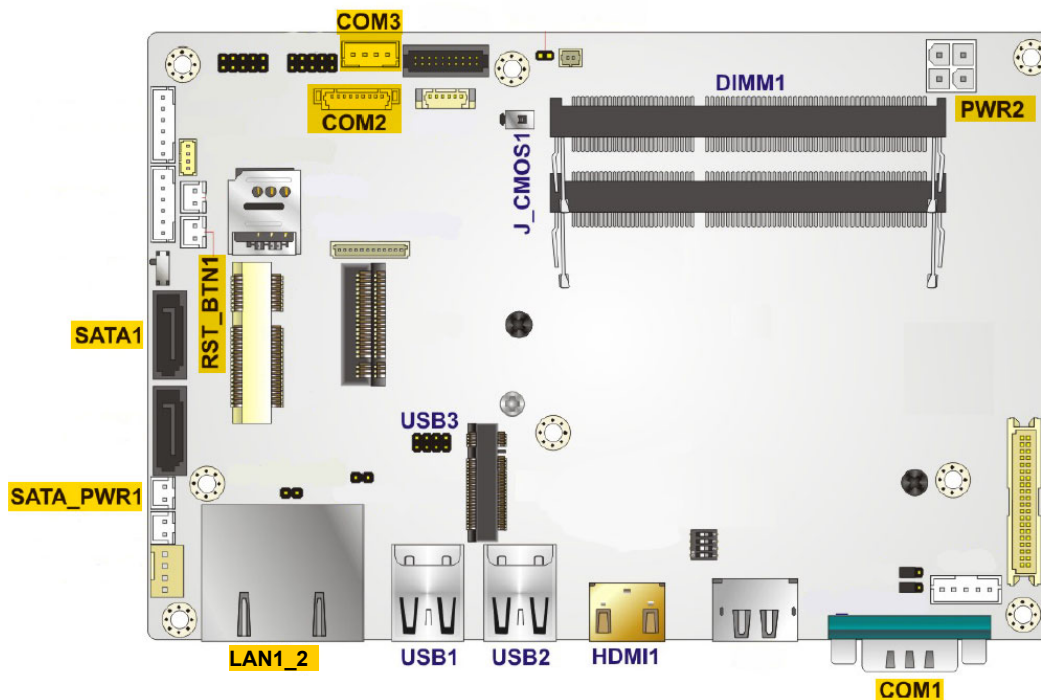

Figure 9: SBC Connections
- (n) Using Table 2 and Figures 9 and 10, connect cables to the new SBC. COM3 and COM2 are keyed connections so they cannot be inserted incorrectly. Connect the unlabeled COM cable to COM1 on the new SBC.
- (p) Locate the multi-connector cable (Nautel Part # UA312) in the 207-5060-01 Cablesset, provided with the Field Modification kit. Mate the largest connector with J1 of the SSD installed in step (m). Connect the other ends to the SATA1 and SATA_PWR1 connectors on the SBC (see Figure 9).